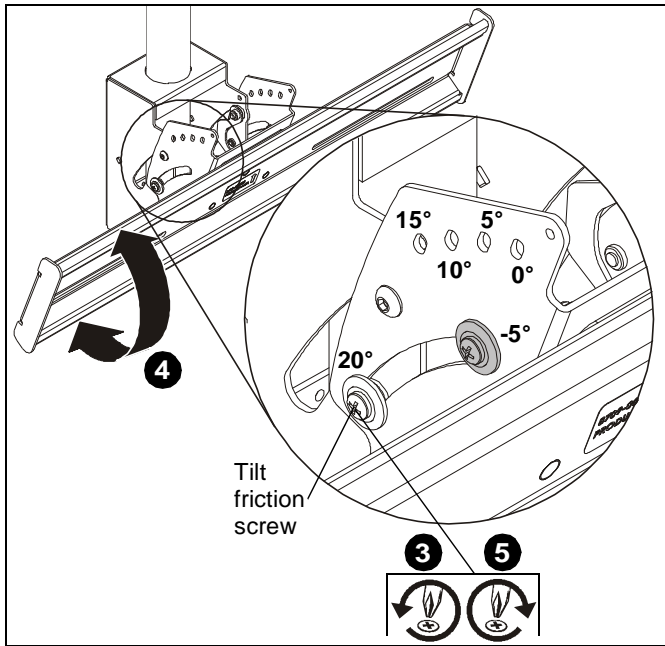

Figure 10
3. Loosen two tilt friction screws (located each side). (See Figure 10)
4. Adjust tilt as required. Note specific degrees of tilt. (See Figure 10)